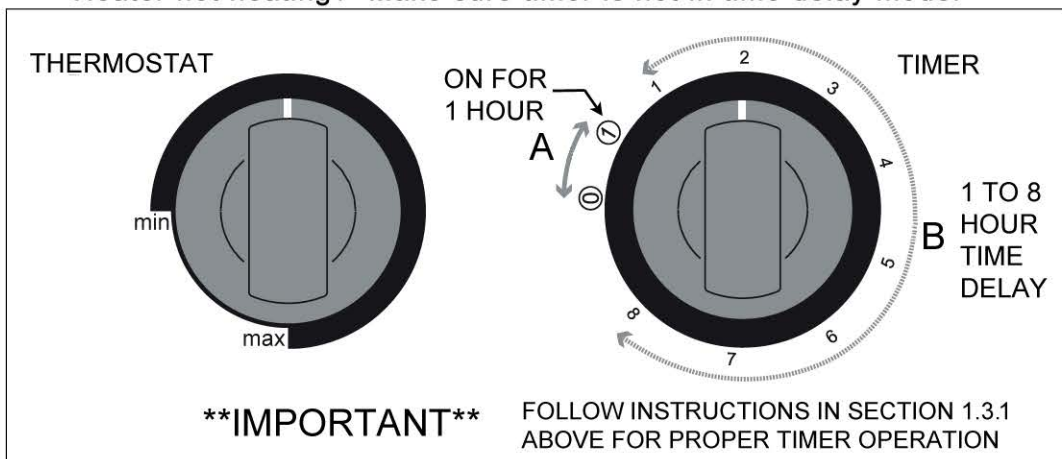

Figure 3.
Turn the timer switch (section A in figure 3) past the first 1 to number 2 or 3 on the dial. Then turn backward to the first 1 until you hear a click. The heater starts heating immediately. Allow at least 30 minutes for sauna room to heat up to an average Sauna temperature.
Turn the timer switch to the "pre-setting" section (section B in figure 3, 0–8 hours). The heater starts heating when the timer has turned the switch back to the "on" section (section A in figure 3). After this, the heater will be on for an hour.
The purpose of the thermostat (figure 3) is to keep the temperature in the sauna room on a desired level. By experimenting, you can find the setting that suits you best.
- **Make sure timer is not in time delay mode. See figure 3.**